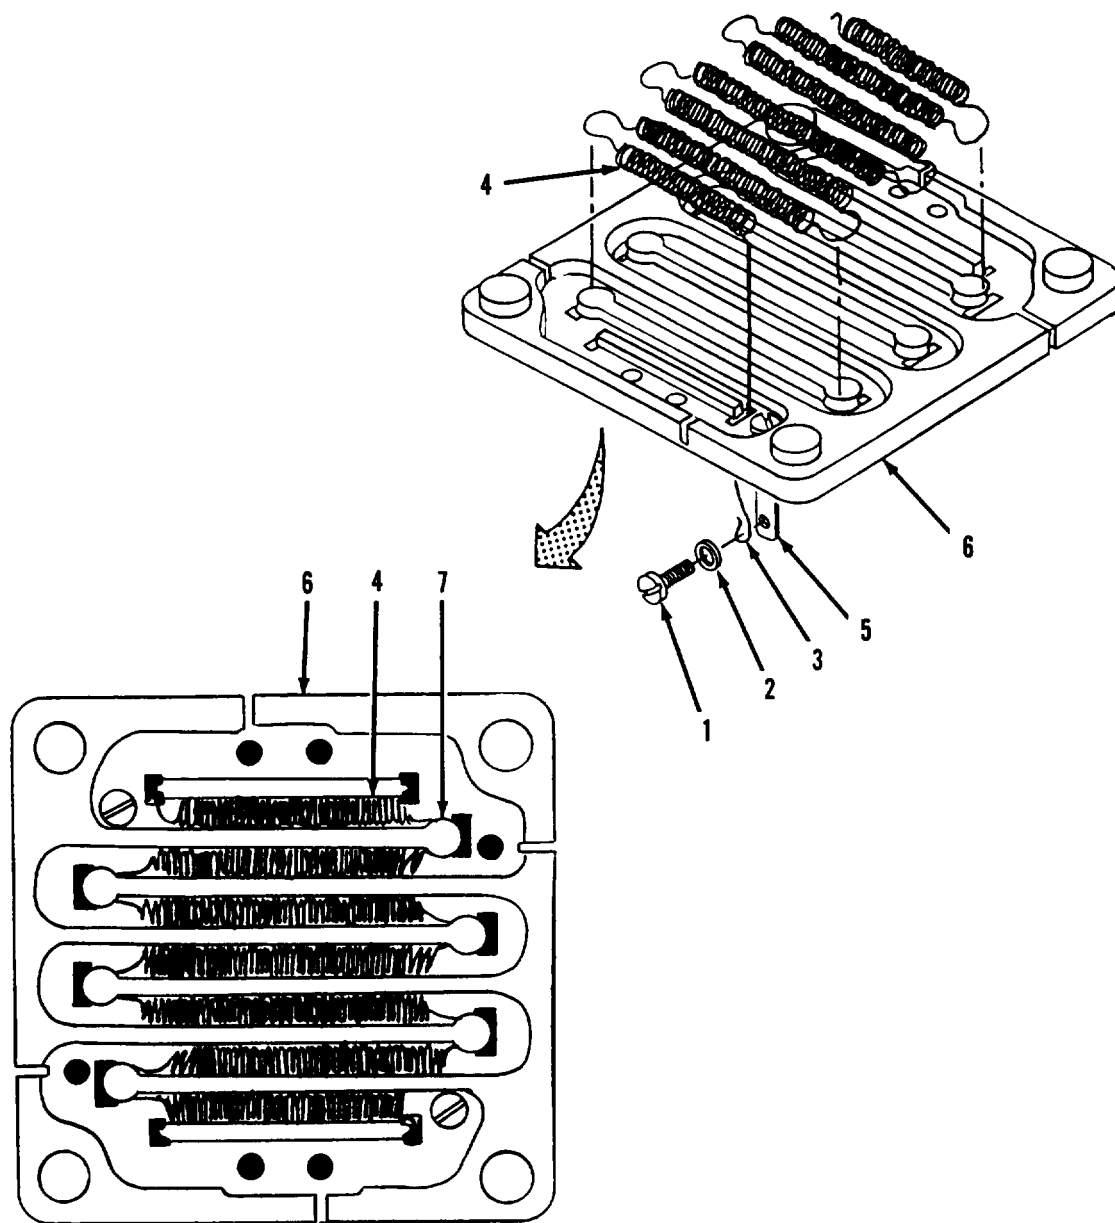

Figure 4-5. Distillation Unit Heater Element and Refractory Repair.
- (4) Inspect heating element (4, figure 4-5) for burned, broken or shorted coils.
- (5) Inspect refractory (6) for cracks, broken or missing pieces, and loose or missing terminal lugs (5).
d. Repair. Refer to figure 4-5.
- (1) Remove two screws (1) and flat washers (2) securing heating element leads (3) to lugs (5).
- (2) Straighten element leads (3) and pull defective element (4) from top of refractory (6).